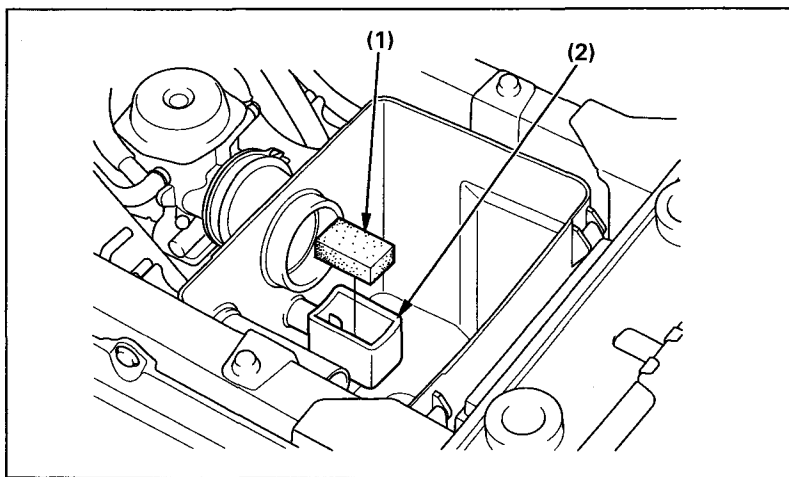

Fig. 4-6
Do not push the dust cover (1) (Fig.4-6 ) into the breather joint (2). If the dust cover is dirty, clean it.